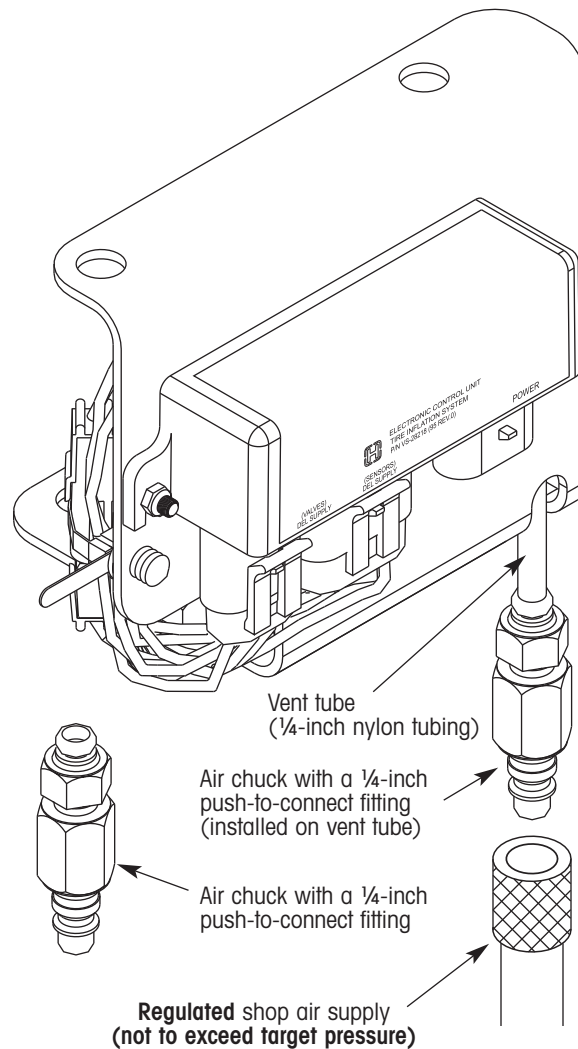

Figure 7. Manually pressurizing the system to check for air leaks
2. Connect an air chuck with a ¼-inch push-to-connect fitting to the vent tube on the delivery solenoid valve (figure 7).